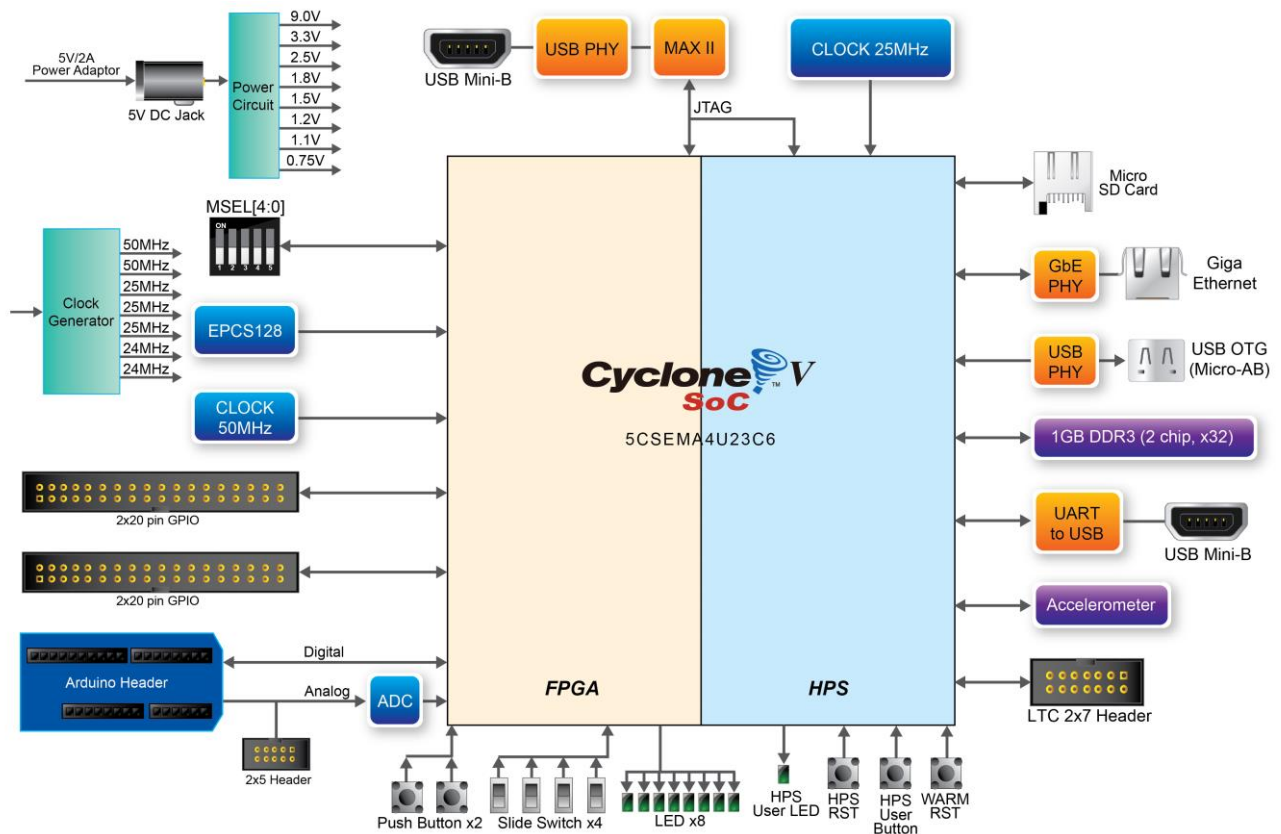

Figure 2-3 Block diagram of Atlas-SoC
**Figure 2-3** is the block diagram of the board. All the connections are established through the Cyclone V SoC FPGA device to provide maximum flexibility for users. Users can configure the FPGA to implement any system design.
Detailed information about **Figure 2-3** are listed below.